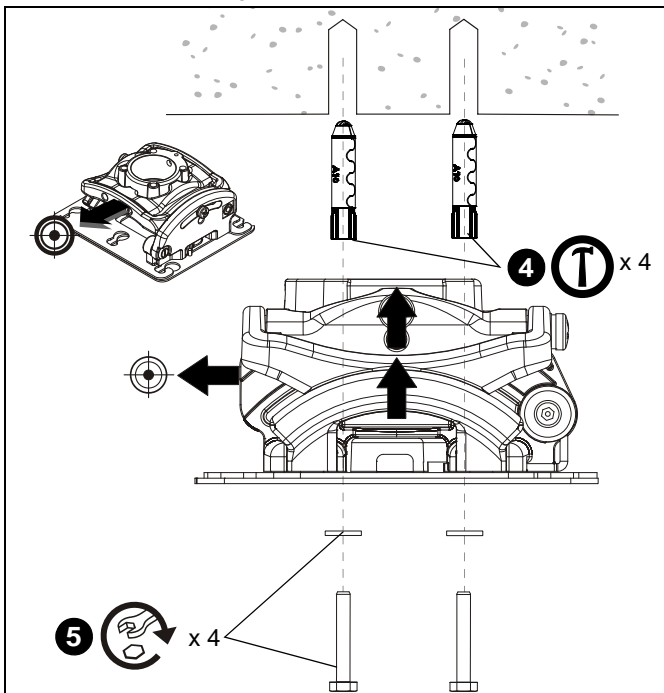

Figure 6
- Secure RPMX to structure using four 1/4" Grade 2 flat washers and four #10-24 x 3" Grade 2 wood screws (not included). (See Figure 6)